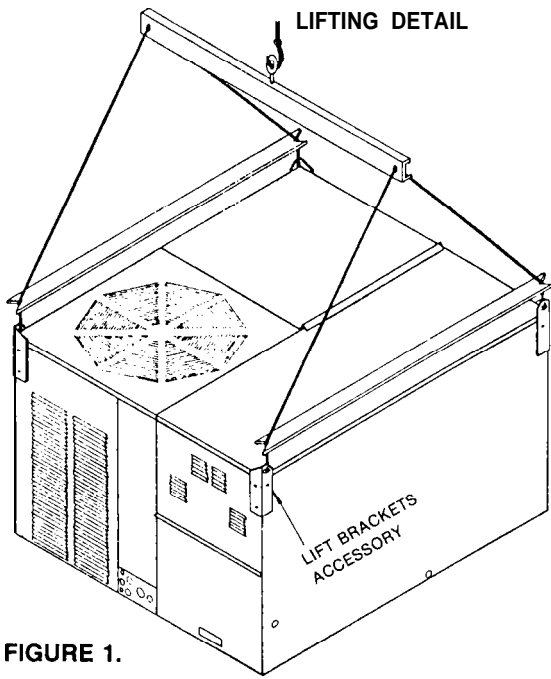

FIGURE 1.
2. Rigging and roofcurb details see Figures 1, 2 and 3.